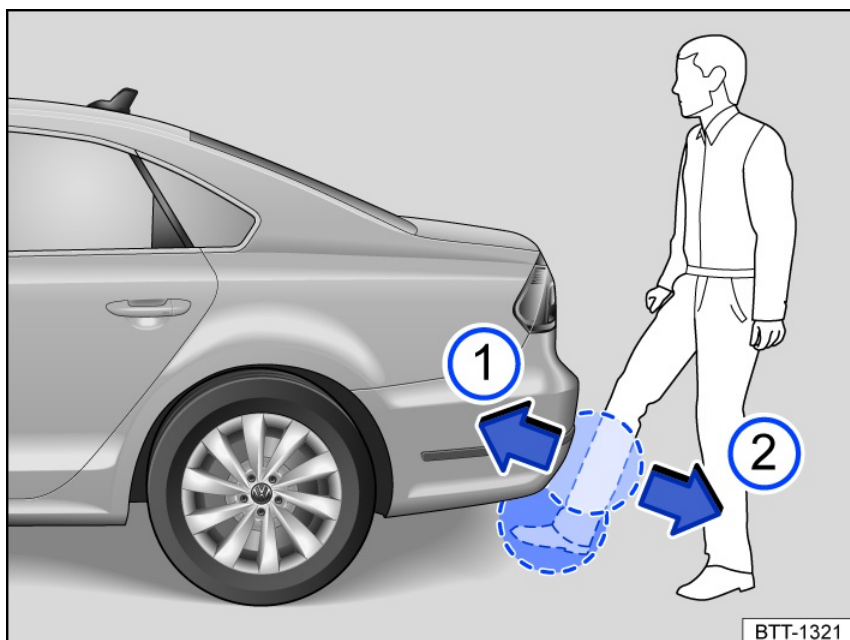

Fig. 51 Trunk lid with sensor-controlled opening (Easy Open).
2. Quickly swing the lower part of your leg close to the bumper. Your shin must be near the upper sensor and your foot must be near the lower sensor fig. 51.